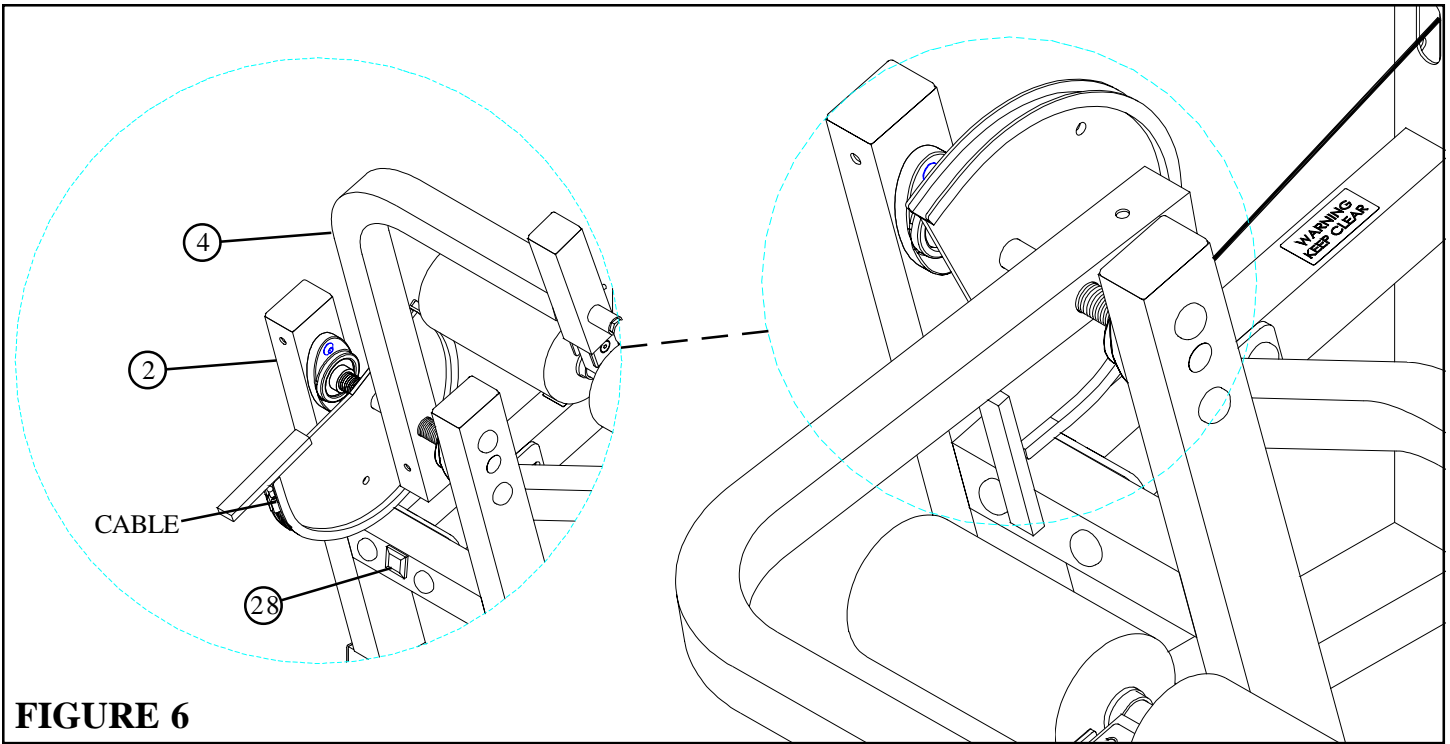

FIGURE 6
- Slide the end of the CABLE into the bushing on the PIVOT ARM (4) as shown in FIGURE 6.
- Assemble one 1-1/4" RUBBER BUMPER (28) to the LEG CURL SUPPORT (2) as shown in FIGURE 6.